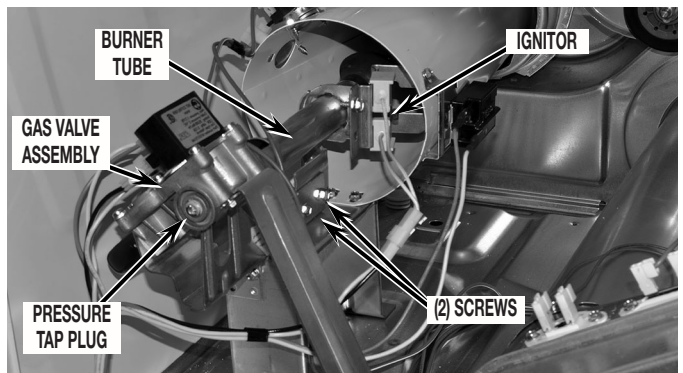

FIGURE 1B
- Disconnect ignitor wires from harness then remove the burner tube by removing the two (2) screws securing it to the burner base. See *Figure 1B*; then continue to "Determining Gas Valve Style" – "Changing the Orifice."